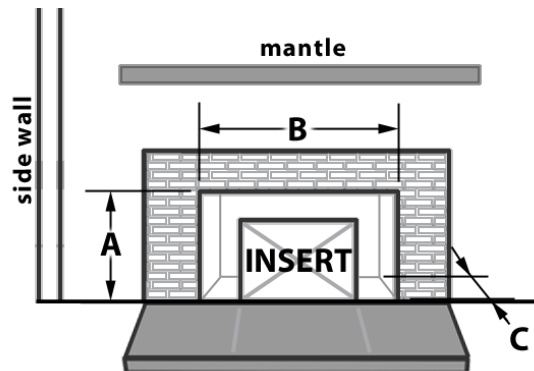
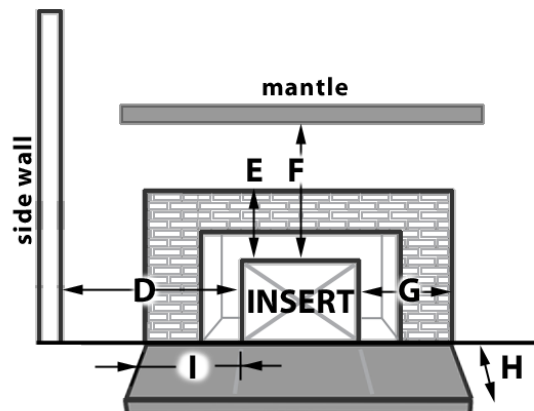

Figure 1 Minimum Opening Specifications
Figure 2 Minimum Clearance to Combustible Materials
5. **WARNING: RISK OF FIRE.** Observe the minimum clearances to combustibles (see figures 1–3). Do not place furniture, rugs, carpet or other objects within the clearance area.
6. **WARNING: RISK OF FIRE. DO NOT** store wood, flammable liquids or other combustible materials within minimum clearance dimensions. Refer to certification label on unit and reference figures 1 – 3 in this manual.
- Combustible Material Clearances.** The fireplace and chimney must be inspected to make sure there is adequate clearance to combustible materials. This includes the top, side, front and back as well as concealed combustibles in the chimney and mantle areas. Your local building inspector or fire authority should have information on whether older fireplace meet current codes and are suitable for use. See also figure 1 and figure 2.
A solid non-combustible floor, concrete or solid masonry must extend 6" to either side of the body of the insert and 24" in front of the face of the insert. This would require a floor protector 38" wide by 24" deep. (See figures 2 & 3)